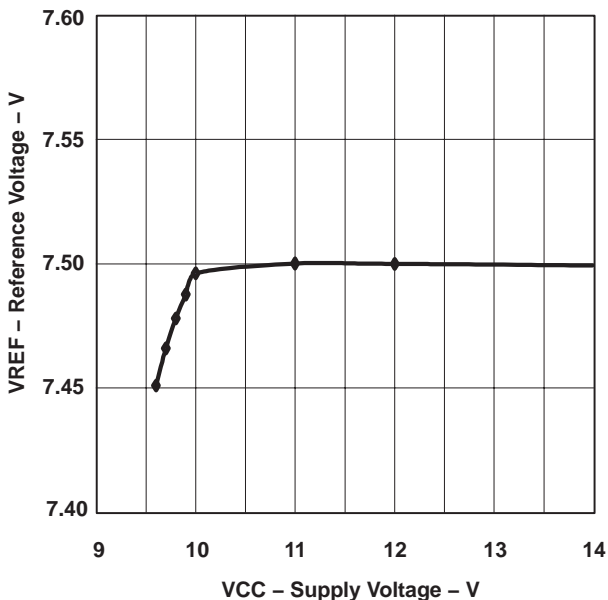

Figure 2
- NOTES: (1) Ensured by design, Not production tested.
(2) Reference variation for  $V_{CC} < 10.8\text{ V}$  is shown in Figure 2.
(2) Reference variation for VCC < 10.8 V is shown in Figure 2.